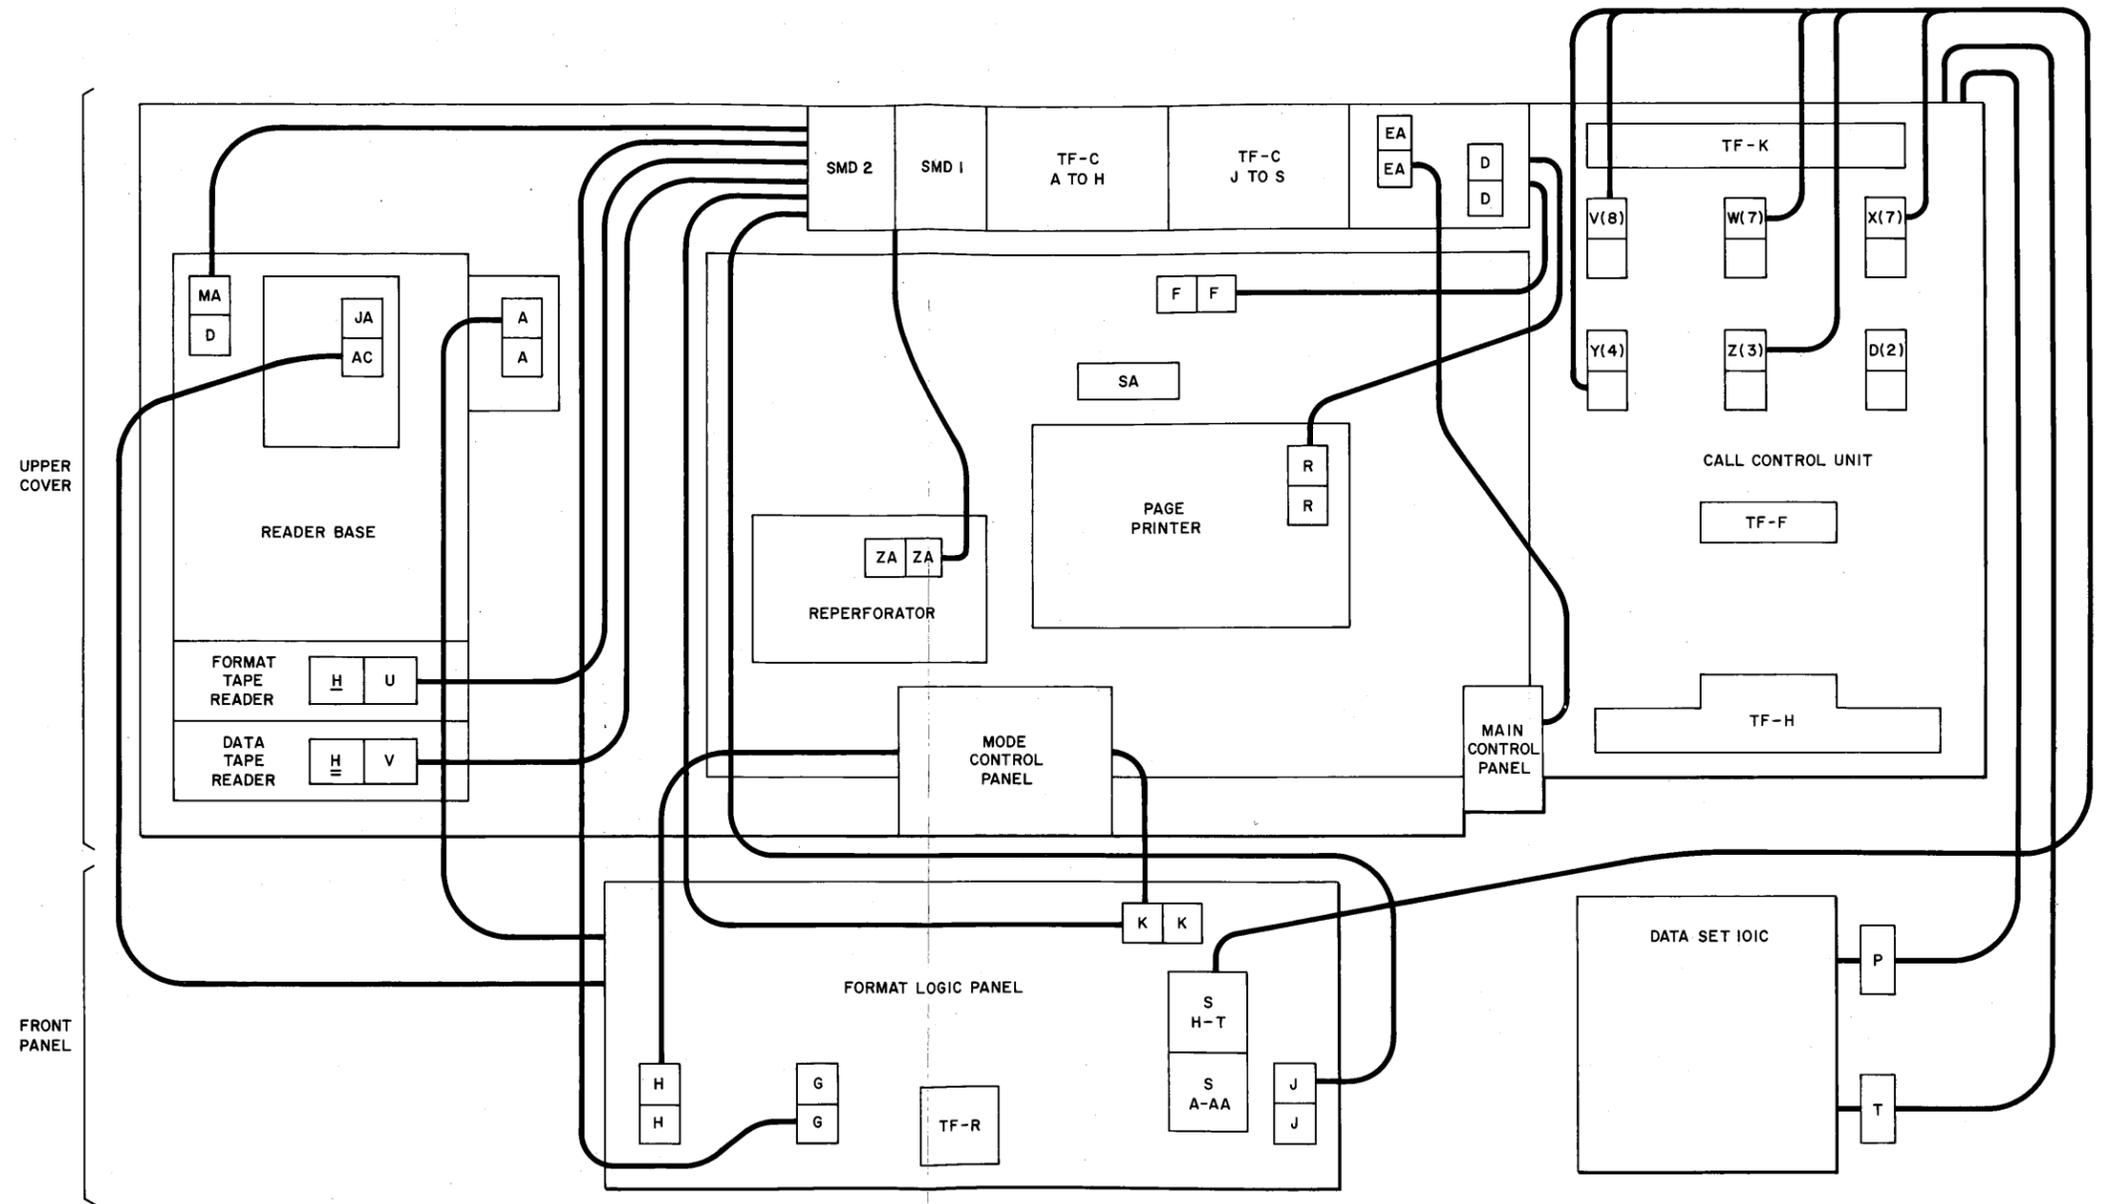

Fig. 2—Data Station Connector and Terminal Field Locations
2.06 Insure that all plug-in station components are securely fastened and connected with the proper mating receptacles. Connector and terminal field locations are shown in Fig. 2.